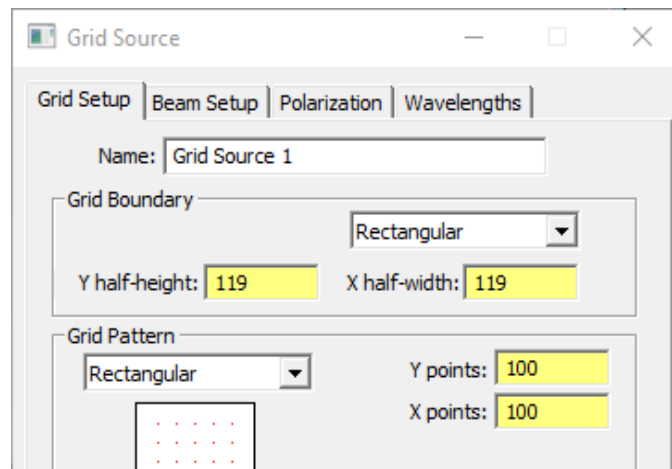

FIGURE 9.11 - Modified portion of Grid Source dialog for Rectangular raytrace.
10. Define a square grid of rays 119 x 119 mm half-widths with a rectangular grid of 100 x 100 rays as shown in Figure 9.11.